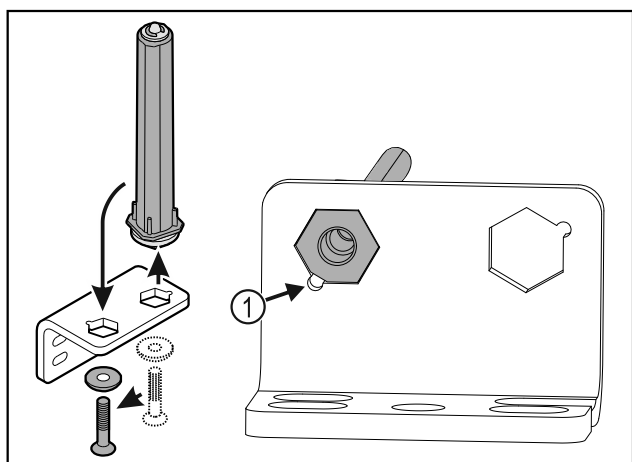

Fig. 15
- Make sure the pin chamfer *Fig. 15 (1)* faces the round hole when you put it in.